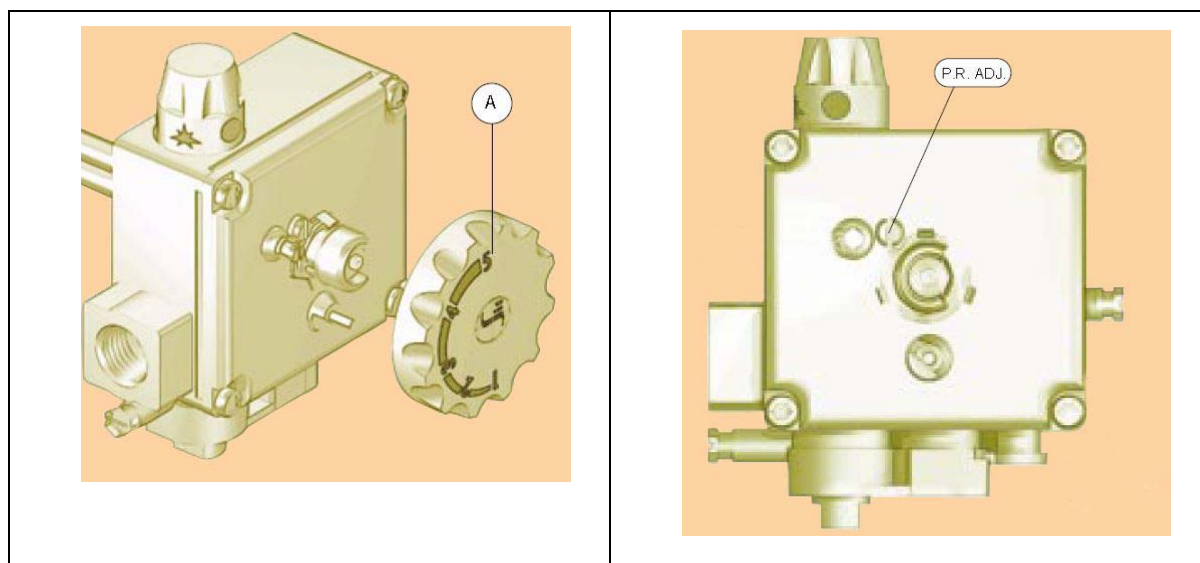

Figure 4 - Main Gas Pressure Regulator Adjustment
8. When the pilot flame remains alight with the knob released, turn the knob anticlockwise to the flame setting. Turn the large dial anticlockwise to select the number setting. A setting of "5" is recommended and this will give a water temperature between 60°C to 65°C. (Figure 4 "Lighting Instructions" on page 9).